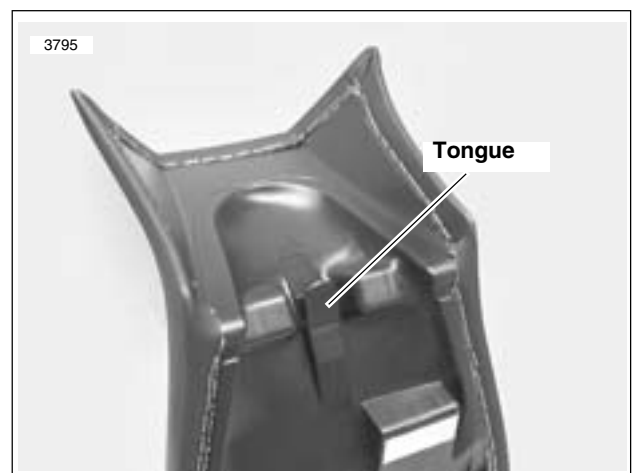

Figure 2-109. Locking Seat Tongue
3. See Figure 2-109. Push seat forward while flexing the rear section of the seat upward until the tongue locks into the bracket located on the frame.